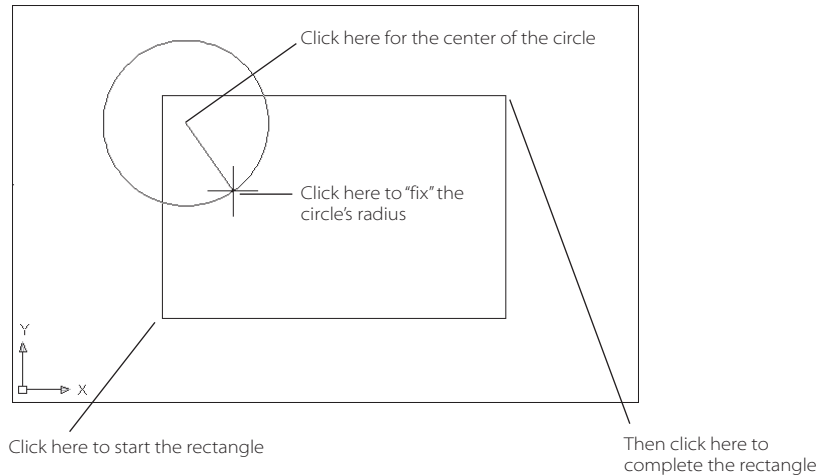

Figure 1.10
2. Click a point in the lower left of the drawing area, as shown in Figure 1.10. Don't worry about the exact location. You're just practicing right now. After clicking, you'll see that one corner of the rectangle follows the cursor.
3. Click a point in the upper right of the drawing area, as shown in Figure 1.10. Again, it's not important if you don't pick the exact location. The rectangle is now in place.
2. Click the location shown in Figure 1.10 to place the center of the circle. Now as you move the cursor, a circle appears whose radius follows the location of the cursor.
3. Click another point as shown in Figure 1.10 to "fix" the circle's radius in place. If you prefer, you can enter an exact radius value for a circle instead of clicking another point to "fix" the circle radius.